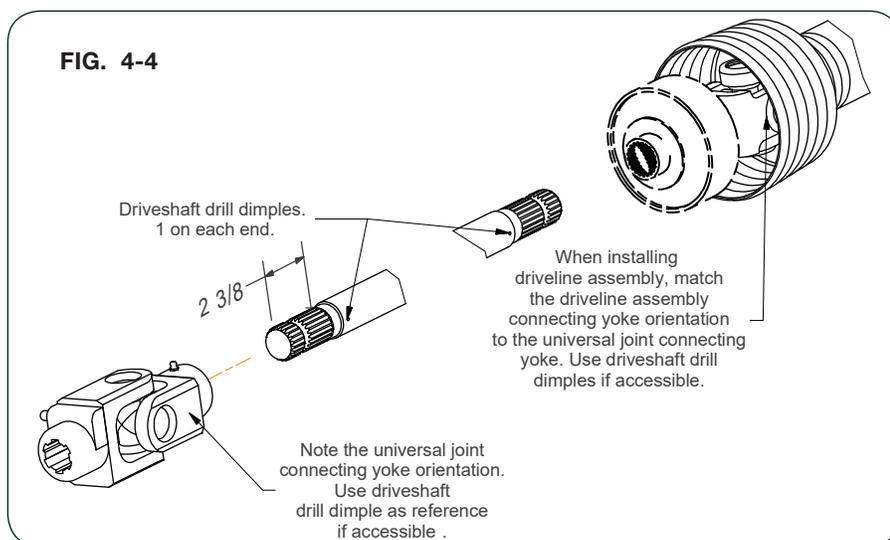

FIG. 4-4
11. Slide driveshaft down into the universal joint attached to the gearbox until the end of the shaft extends into the universal joint about 2 3/8". Ensure universal joint and driveshaft splines completely engage. Verify the hitch end for adequate length for driveline assembly to connect. (FIG. 4-4)
4. Align auger end with the five pin drive bushing and securely engage together, see FIG. 4-4 and 4-5. Secure hanger bearing to auger housing tube wall with original five 1/2"-13UNC x 1 1/2" capscrews and five 1/2"-13UNC flange nuts. Do not tighten.